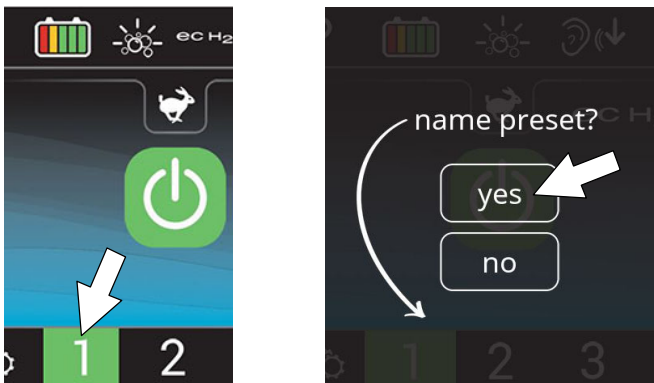

FIG. 63
2. Then press and hold a zone button until a screen prompts you to name the new preset zone. Select “yes” to name the preset zone (Figure 63).